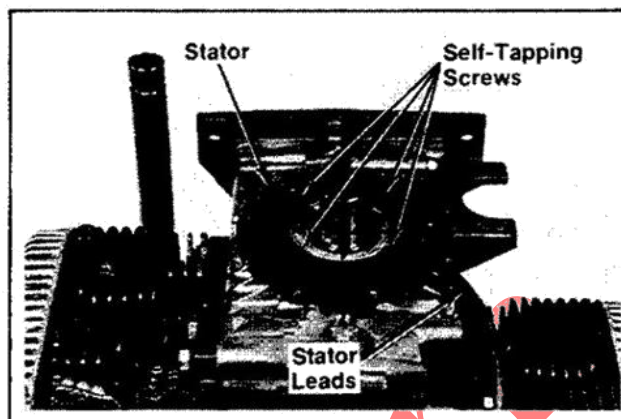

Figure 11-36. Installing Stator.
1. Install the stator and self-tapping screws. Make sure the stator leads are positioned as shown in Figure 11-36.